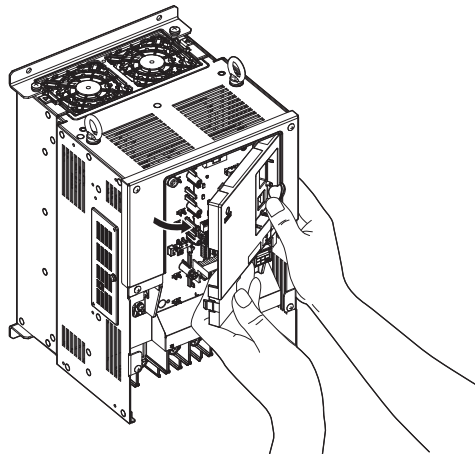

Figure 86 Remove the Front Cover (Models LU2M0085 to 2M0415, 4M0045 to 4M0605, and 5M0032 to 5M0200)
4. Unhook the left side of the front cover then swing the left side towards you as shown in Figure 86 until the cover comes off.